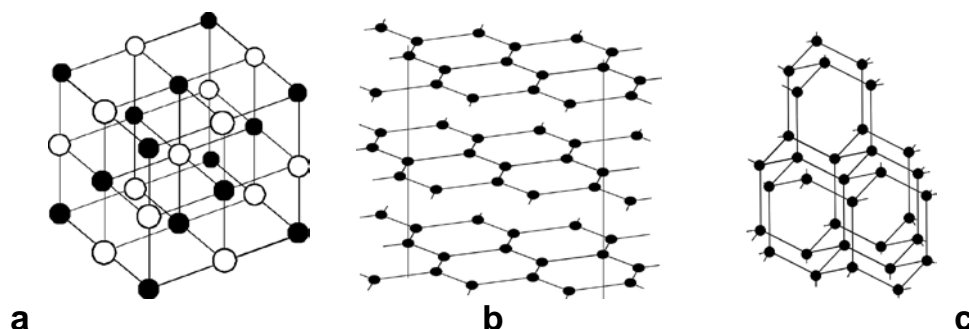

Fig.3. Crystal lattices: (a) NaCl type – cubic lattice; (b) graphite – planes with hexagonal cells; (c) diamond – tetrahedral structure.
**Ionic crystal** lattice is built by ions of opposite charges. Interaction forces are Coulomb's electrical forces. Whole crystal is similar to one molecule. Sample is crystal lattice of NaCl (fig.3,a).
atoms with covalent bonds between them. Covalent bonds are provided with collectivized electrons. They are very steady. The examples are crystals of diamond, silicon, germanium, CuCl. Such lattices are represented in fig.3,b and c.